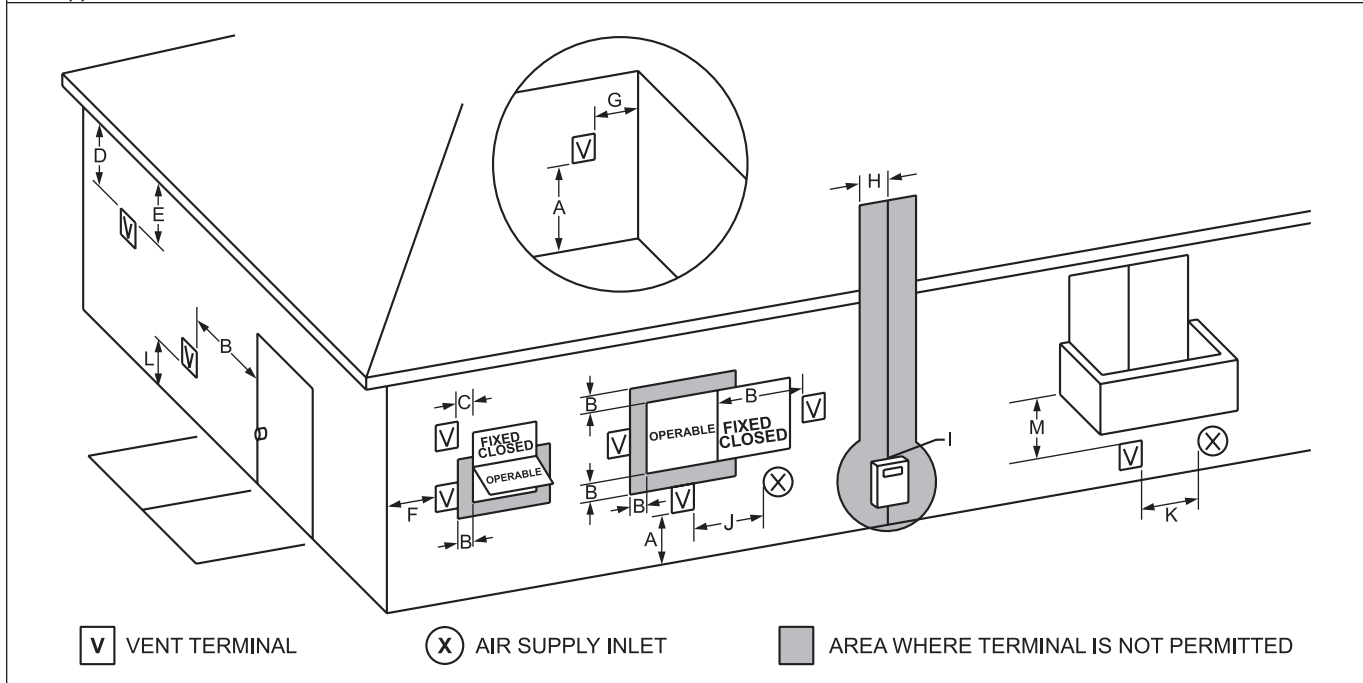

Figure 4. Combustion Air and Vent Through Side Wall.
1. Figure 4 shows the requirements for mechanical vent terminal clearances for the U.S. and Canada.
4. If the PowerMax is side-wall vented to the same wall, locate the vent terminal at least 3 feet (0.9m) horizontally from the combustion air terminal, and locate the vent terminal at least 1 foot (0.3m) above the combustion air terminal. (see Figure 4).